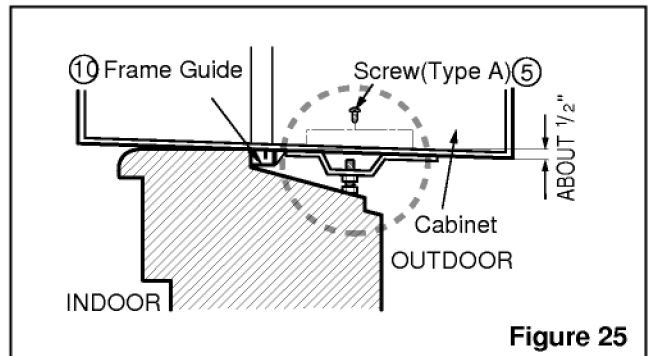

Figure 25
4. Select the position that will place the sill support near the outermost point on sill (See figure 25).
5. Attach the sill support to the cabinet track hole in relation to the selected position using the screws (Type A) (See figure. 25).